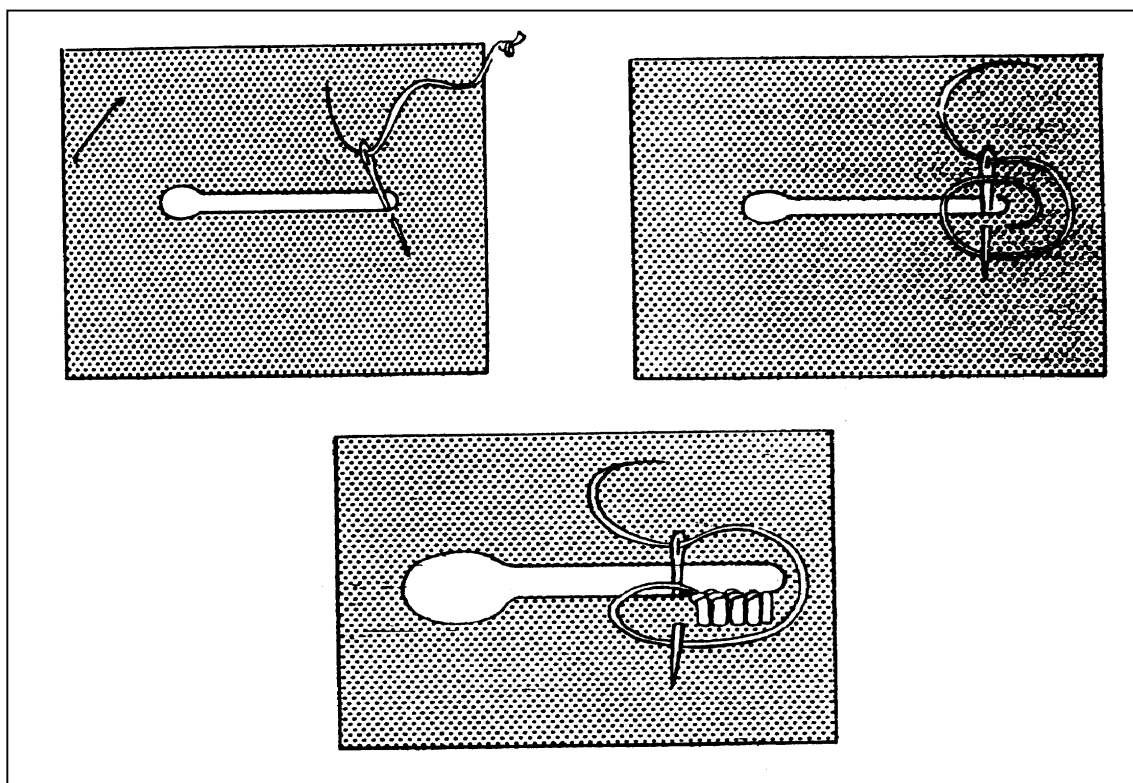

Figure 2-9. Buttonhole stitch
f. Buttonhole Stitch. The buttonhole stitch (Figure 2-9) is used to finish and reinforce the raw edges of buttonholes and eyelets. To make a row of buttonhole stitches--
- (1) Stick the needle up through the cloth 1/16 to 1/8 inch away from on edge of the buttonhole.